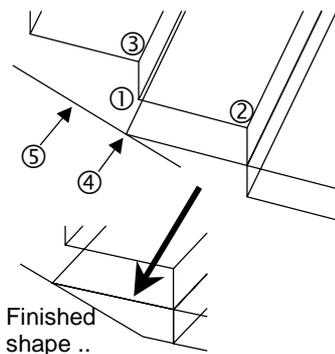

**Figure 9**
Now is a good time to learn another way of setting up a 3D view ... we want to position ourselves to look down at the gap where we need to construct the landing. Select `View > 3D Views > Viewpoint Presets ...` you should get the adjacent dialogue box on the screen. The left diagram shows the plan viewing angle (with the small line pointing towards the centre showing the line of sight in plan — this is set to NE at the moment) and the right diagram shows the altitude (again, with a small line to show the current line of sight in elevation — 45 degrees). You can re-position the line of sight on either diagram simply by clicking with the mouse. *Experiment until you get a view similar to that shown in Figure 9 (over the page), remembering that this is still just a parallel projection.*
- the first thing to do is set the UCS onto the plane of the landing — that is easily done using the *3Point* option in the *UCS* command (refer to the illustration on page 9) and placing the origin at 1 in Figure 9, the X-axis point at 2, and the third point (on the XY plane) at 3;